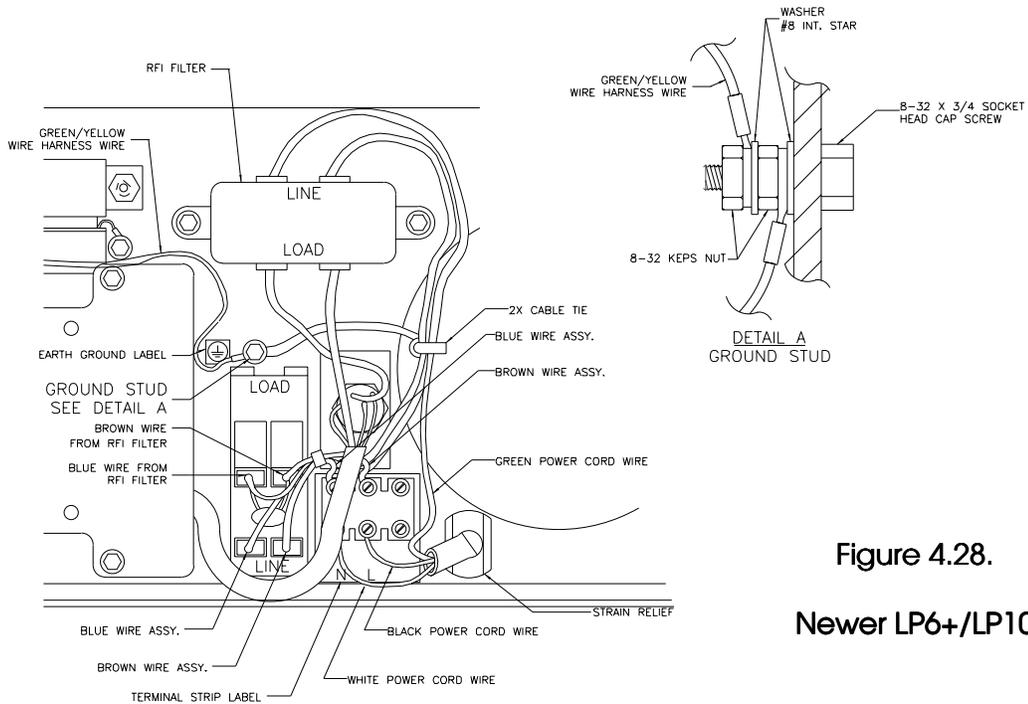

Figure 4.28.
See Figure 4.28 and 4.29.
10. Connect the white and black wires of the power cord to the terminal strip as shown (Figure 4.28 and 4.29). Note the placement of washers on the ground stud. Connect the green wire of the power cord to the ground stud for the LP6+/LP10 or the terminal strip for LP20.
5. Reconnect the four wires to their previous locations on the new ON/OFF switch. The wires from the terminal strip go to the lugs closest to the bottom edge of the back panel (Figure 4.28 and 4.29).